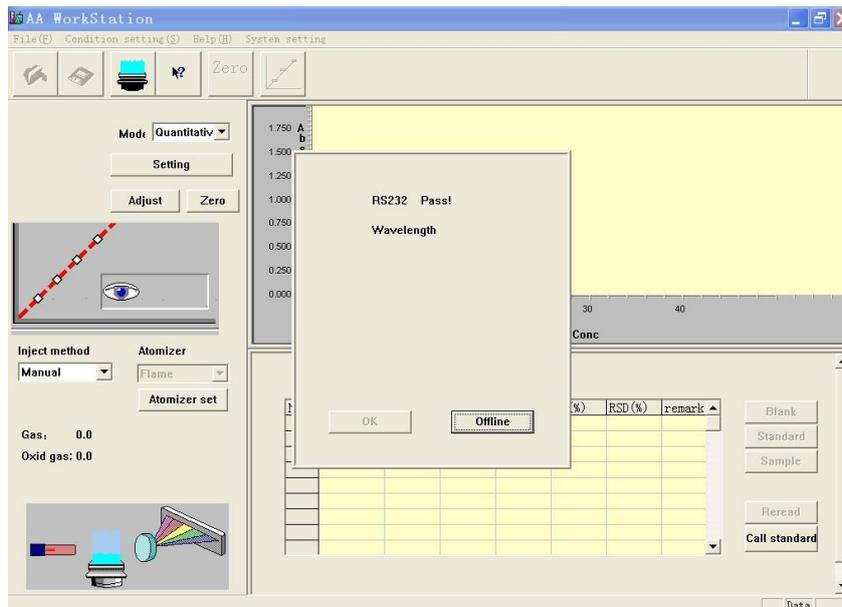

Figure 4-2
3. Turn on the power of the instrument, which will start self-test, as shown in Figure 4-2.